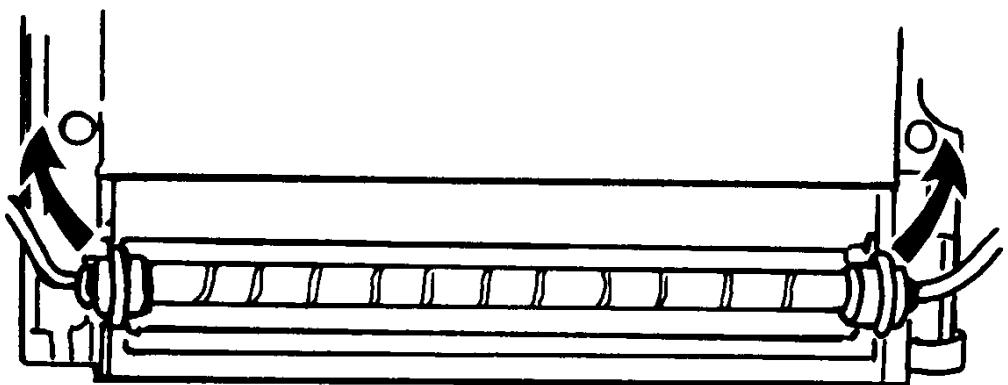

Figure 4-30 Lifting Out Flashtubes
Lift out Flashtubes by gently pulling up on wires at each end. (Fig. 4-30)
- 1.3 Loosen screws in Solenoid bracket. Position the Solenoid body so that when plunger is all the way in (energized position), linkage pivot "X" is at the right end of the slot, as shown in the illustration (Fig. 4-30).